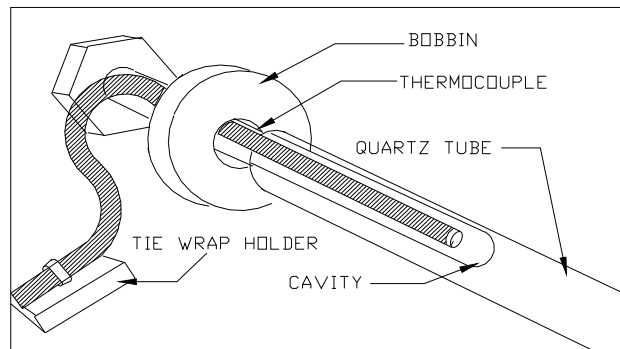

Figure 11-7. Thermocouple Installed
14. The thermocouple should now be properly seated in the cavity of the quartz tube. Refer to Figure 11-7.